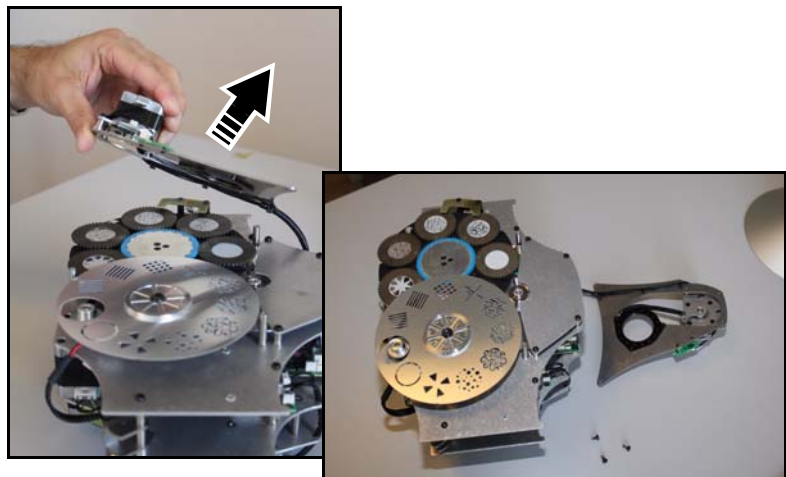

Figure 15: Moving the iris unit for access
3. See Figure 15. You do not need to disconnect the iris unit wireset. Lift the iris unit off the multi-module and place it beside the module. You now have access to the static gobo wheel.